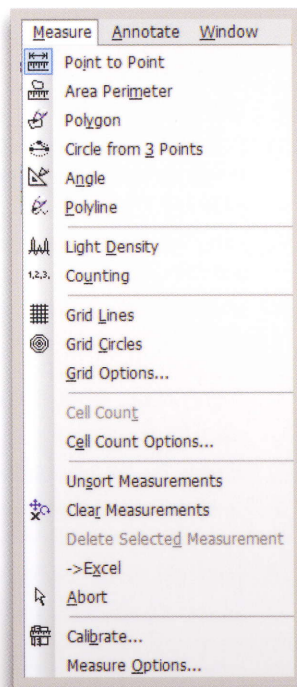

Figure 6
4. Select Calibrate... from the Measure drop-down menu (Refer to Figure 6).
Once the software has been calibrated, measurements may be performed on the live preview or on any captured images. Types of measurements are presented in the Measure drop-down menu (Refer to Figure 6). Select a measurement option transforming the cursor to a crosshair, choose your starting point, left click, drag your mouse to the end of the item being measured, and left click to finish. The live preview will freeze during measurements and resume when the measurement operation is completed.